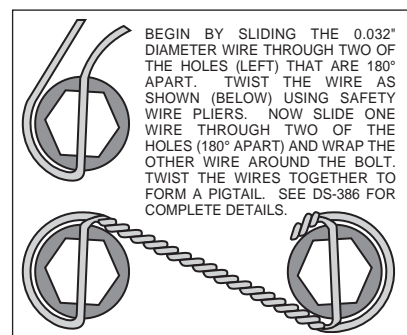

Figure 3. Safety Wire Diagram
•Install wheel studs (1) into the hub (2). Torque to 77 ft-lb. **NOTE:** There are two five lug patterns in the hub (5 x 4.50 and 5 x 4.75). Make sure of the correct hole pattern for the correct wheel application before installing studs into hub.
•Pack the large inner bearing cone (3) with high temperature disc brake bearing grease (available from your local auto parts store) and install into the backside of the hub (2).
•Install the grease seal (4) by pressing into the backside of the hub (2).
•Attach rotor adapter plate (5) to rotor (6) using bolts (7). Torque bolts (7) to 180 in-lb. Safety wire bolts (7) using standard 0.032 inch diameter stainless steel safety wire as shown in Figure 3. Please refer to Wilwood's data sheet DS-386 (available at www.wilwood.com/Pdf/DataSheets/ds386.pdf) for complete safety wire installation instructions. **NOTE:** Dished side of adapter plate (5) should face hub (2). The mounting tabs on the rotor (6) should face toward the hub as well and line up with the holes on the adapter plate (5).